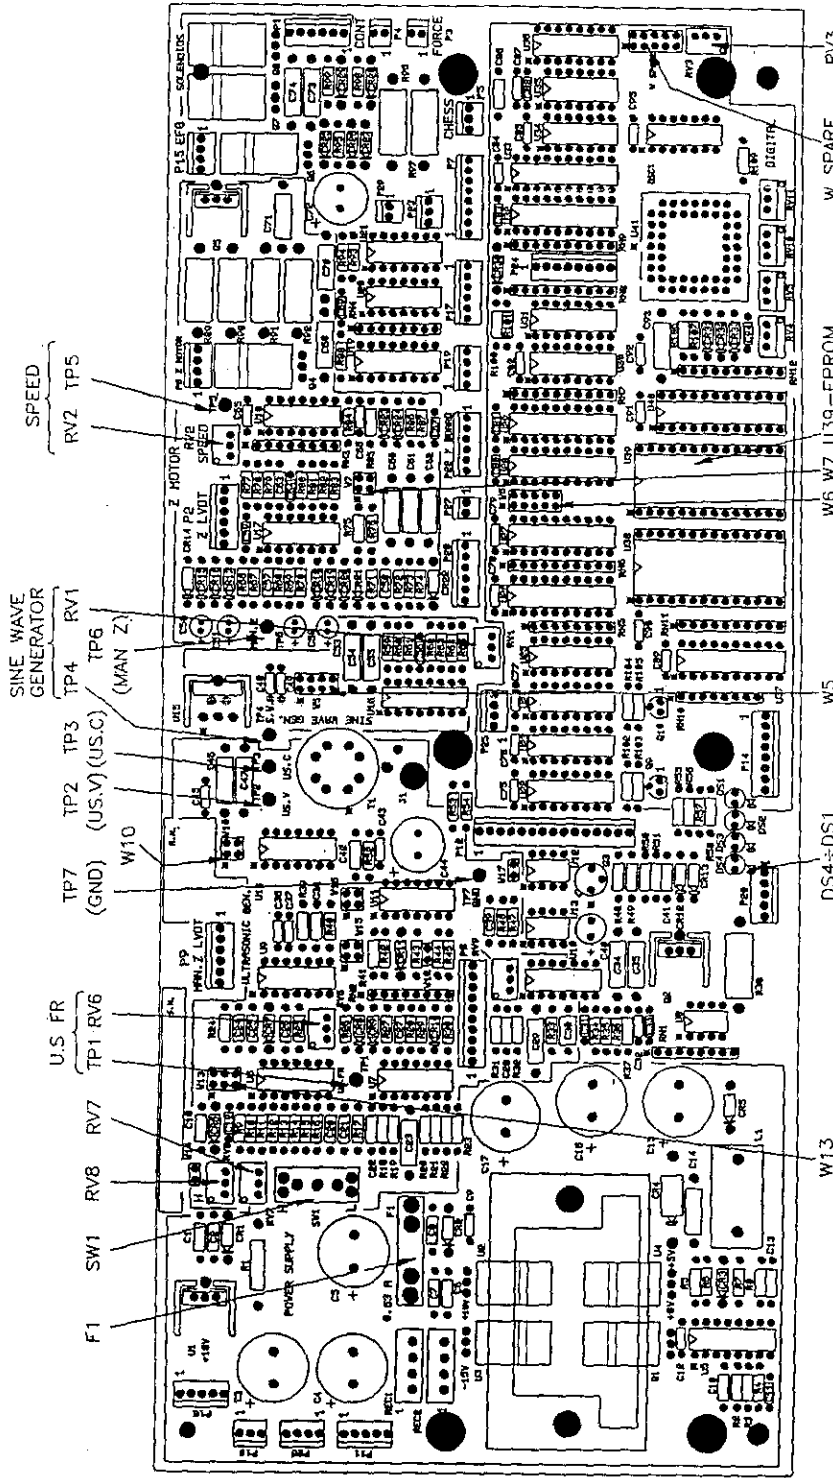

Figure 8-5 The 4125-4200-000 Logic Board
The Logic Board contains a number of adjustment points, these are summarized in Table 8-3. The physical locations of these are shown in Figure 8-5.
The Logic Board provides test points for checking various signals of the board. These are summarized in Table 8-4. The locations of the test points are shown in Figure 8.5.
- Step 3      If the voltage does not have the value given in Step 2, adjust the voltage to this value with the trimmer RV1 on the Logic Board (see Figure 8-5).
- Step 2      Connect the counter leads to TP1 (US. FR) and TP7 (GND) (see Figure 8-5).
- Step 2 Set switch SW1 (see Figure 8-5) to LOW.
If it is necessary to change the factory-set speed: insert a screwdriver in trimmer RV2 (see Figure 8-5). A clockwise turn increases the Z Motor speed, counter-clockwise decreases it.